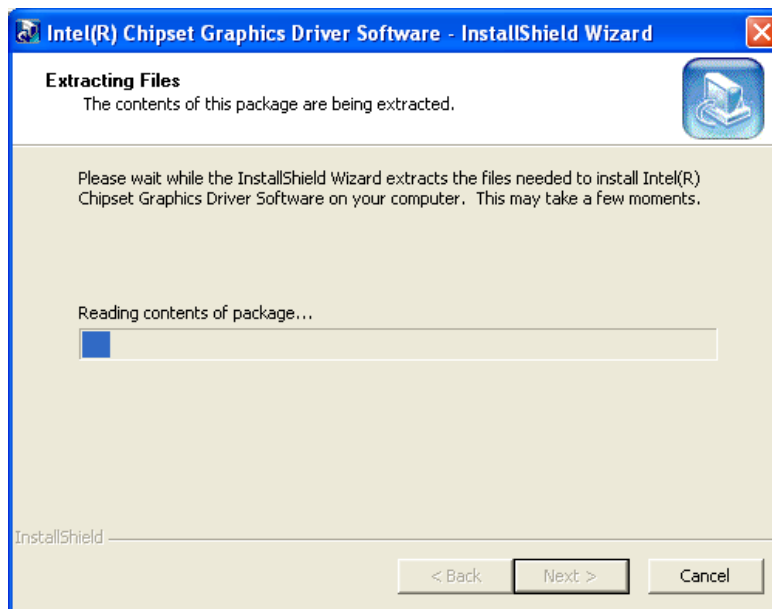

Figure 6-8: VGA Driver Setup File Extraction Screen
Step 6: The installation files are extracted as shown in **Figure 6-8**.